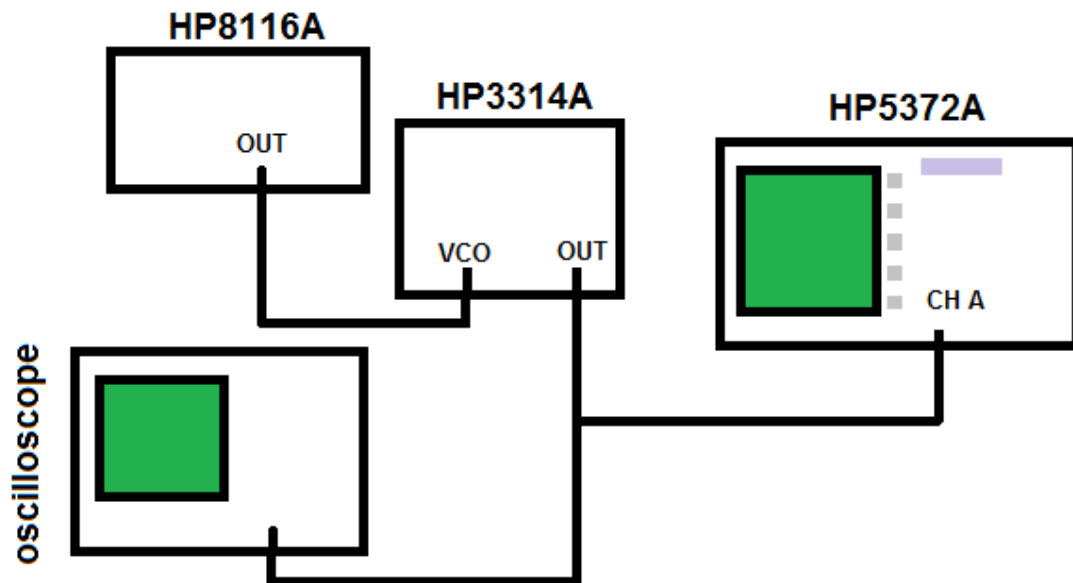

Figure 6 Experiment set up.
- 2- Connect the equipment as shown in Figure 6.